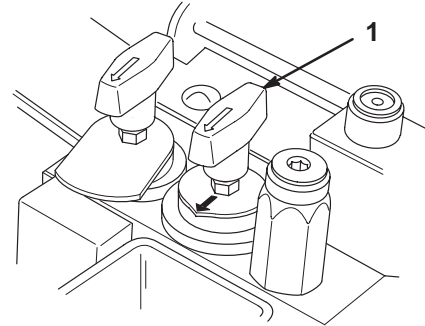

Figure 38
- Turn the reel speed control knob (Fig. 38) to the number setting determined in step 1.